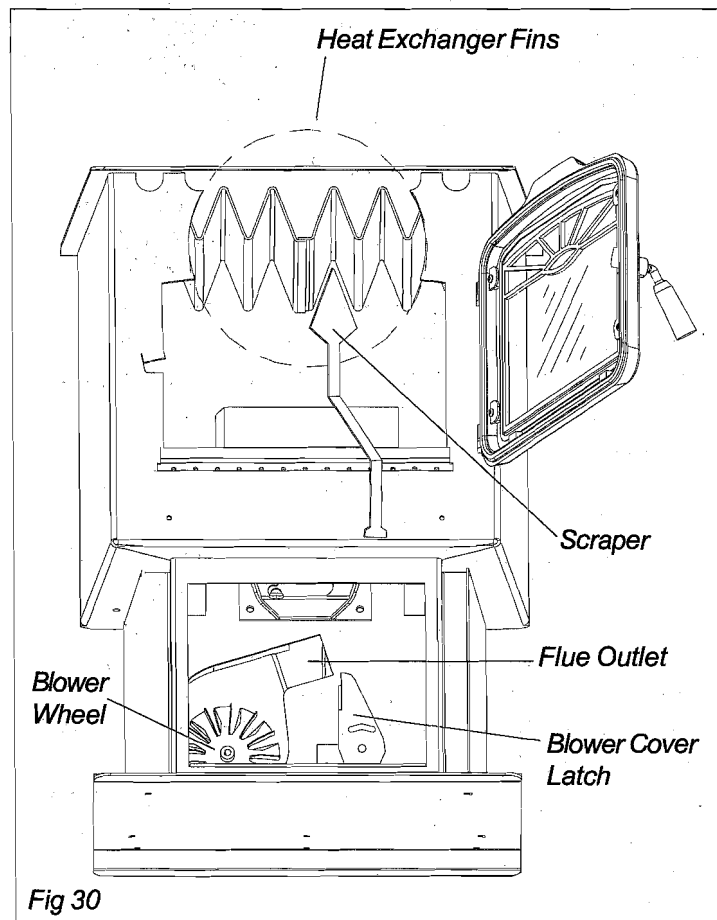
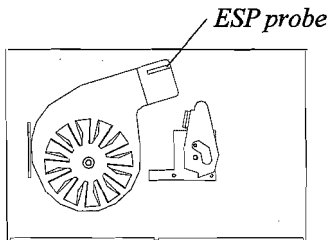

Fig 30
Fig. 33: Exposed blower wheel and flue opening, NOTE: ESP probe is visible.
2. Clean the heat exchanger with the scraper as shown in Fig. 30.
6. Remove the combustion blower cover by turning the blower cover latch vertical as shown in fig. 30. Slide the cover out of the slot on the left. This will expose the combustion blower wheel and flue outlet, fig. 33.